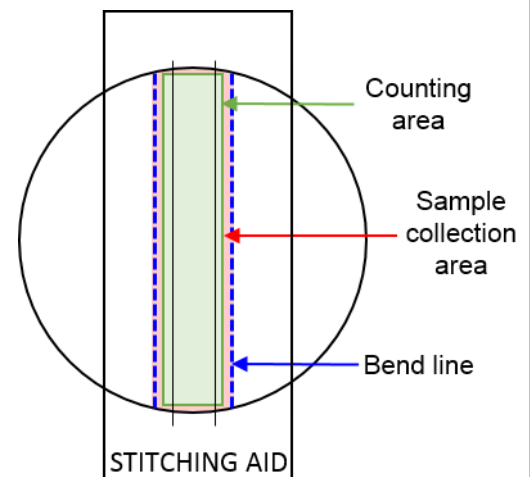

Figure 33. Illustration of clean filter sample (not to scale)
- 10) Center a clean acetate stitching aid (from the PET custom microscope templates) over the sample collection area as per Figure 33.